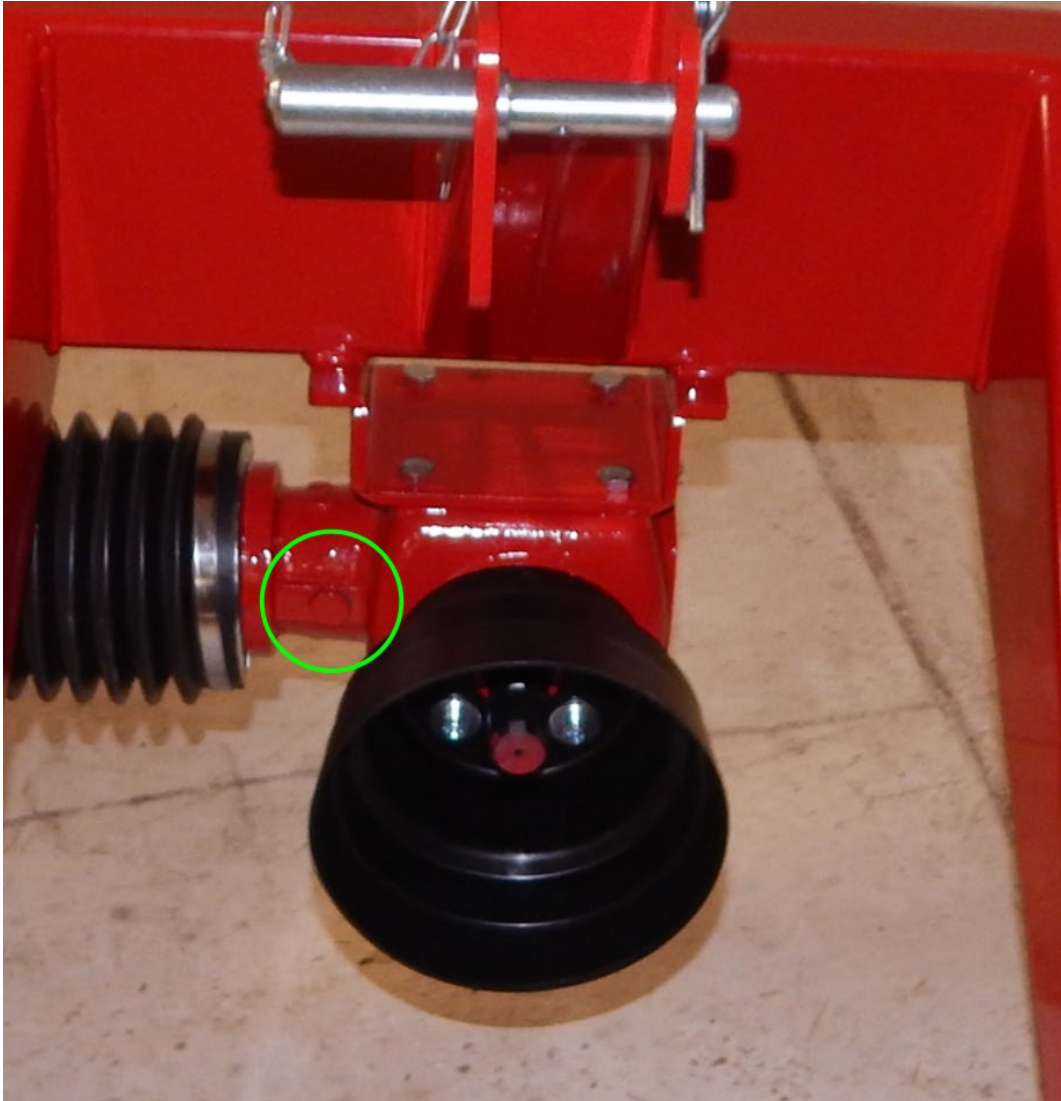

Figure 1 - Oil level plug on 3 point hitch gearbox
- The machine is shipped with oil in the gearboxes. **Double-check the oil level and top off before each use if needed.** To check the oil on the drum unit gearbox, remove the plug with the dip stick. On level ground, the dip stick should have oil on the tip, up to a maximum of 22mm (around $\frac{3}{4}$ inch). To check the oil in the 3 point hitch gearbox, use the fill level plug shown in Figure 1 below.